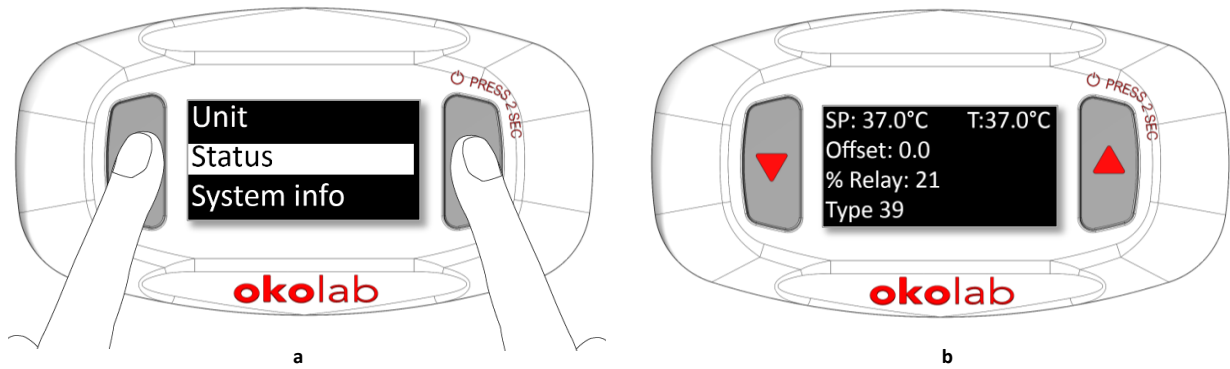

Figure 28. Status page (a – b).
Press UP & DOWN buttons at the same time for 1 second (as shown in Figure 28 a) to open the *Status Page* (see Figure 28 b).
**Note** ► This page (as shown Figure 28 b) contains advanced technical data. You may be asked to read these data in case of technical assistance with Okolab engineers.